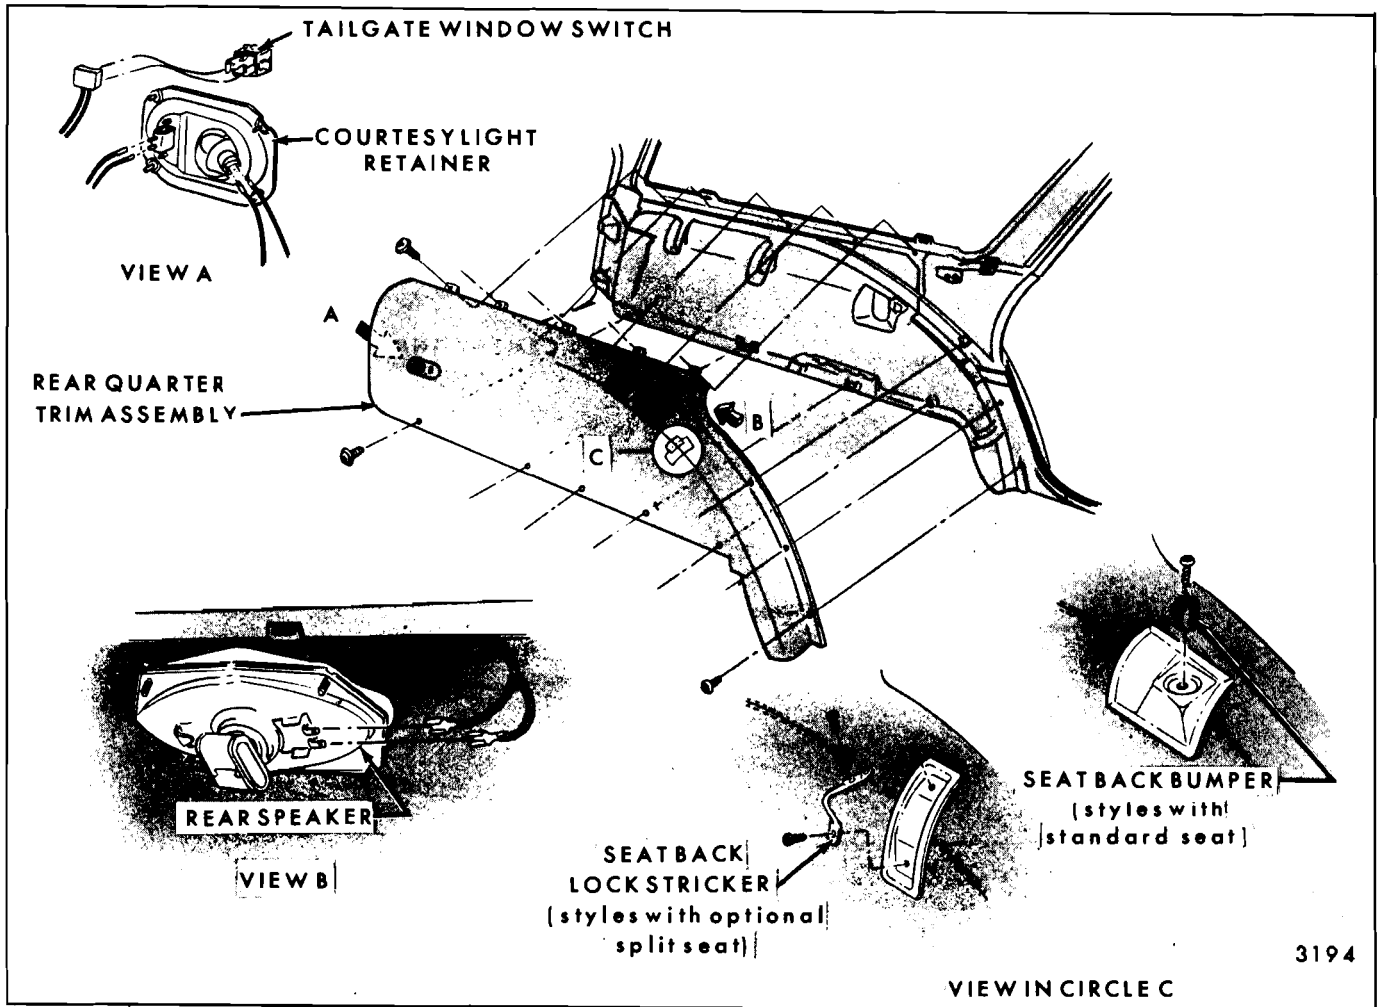

Fig. 14-36—Rear Quarter Trim Panel (Left Side) - "A" Station Wagon
2. Remove seat back bumper or seat back lock striker (only on styles with optional split seat), as shown on Fig. 14-36.
3. Remove screws at top, bottom and front of trim panel as shown in Figure 14-36 and remove trim panel from body.
NOTE: On styles so equipped, disconnect rear radio speaker, courtesy lamp, and tailgate window switch connectors as shown in Figure 14-36.